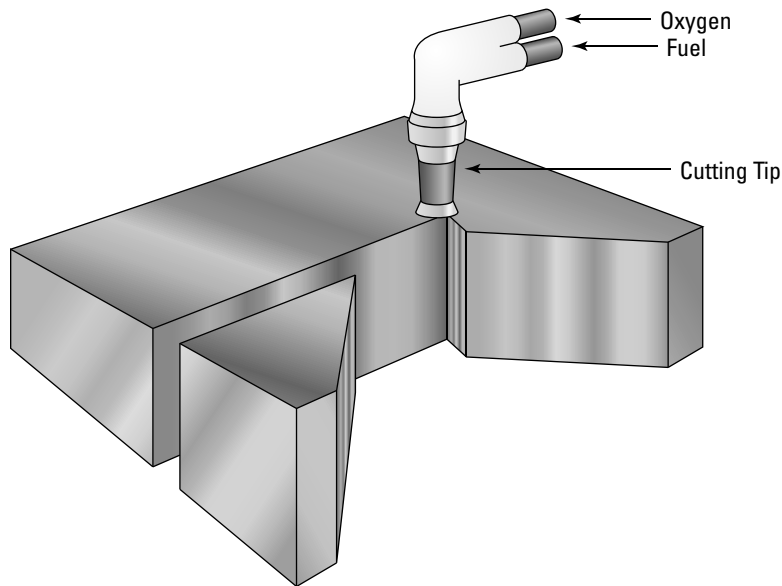

Figure 12-5:
- 8. To start cutting, hold the torch at a 90-degree angle to the surface of the plate, with the inner cone of the flame about $\frac{1}{16}$ inch away from the surface of the plate as shown in Figure 12-5.**